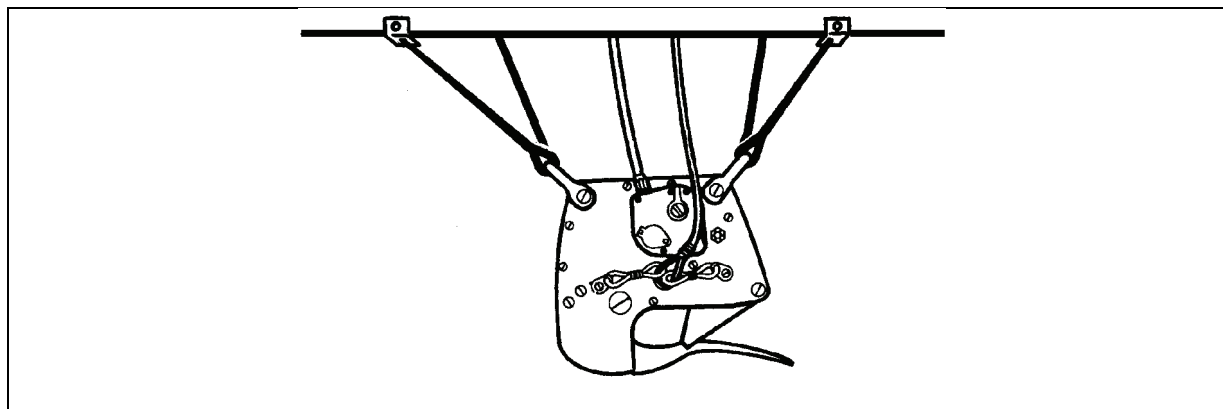

Figure 2-7. Cable Suspended System
- The cargo hooks are the same but are mounted differently to the aircraft. Four cables extend from the fuselage attaching points to the cargo hook in the cable suspended system (Figure 2-7).